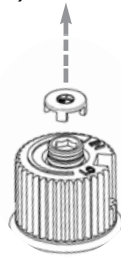

Fig. 1
- 5) Remove the Hi/Low extension knob by pulling it towards you. This will expose the black protection cap. Remove the black protection cap by hand from the high-low knob (Fig.1).